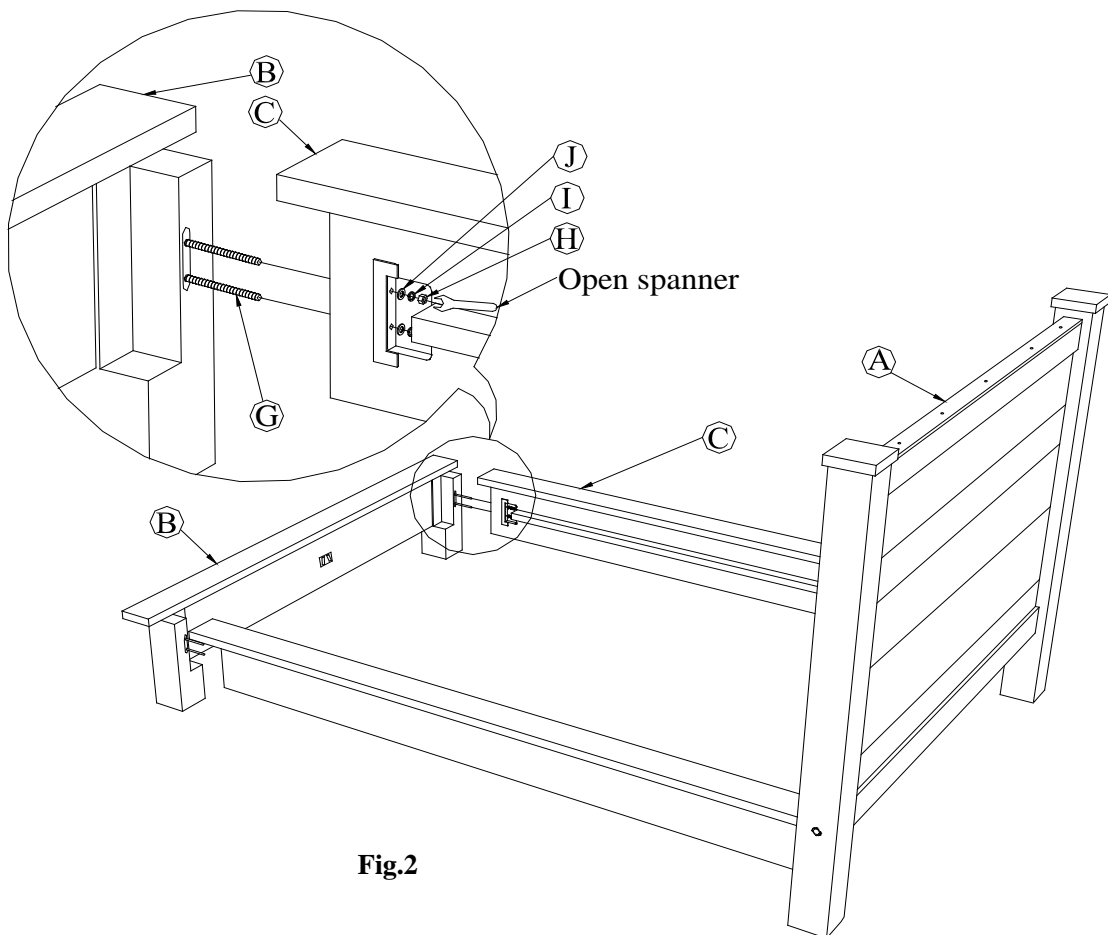

Fig.2
3. Turn bolts (G) into the threaded holes on metal plate of footboard (B). Keep the same procedure of set up the headboard (A) for footboard (B). **Fig 2.**